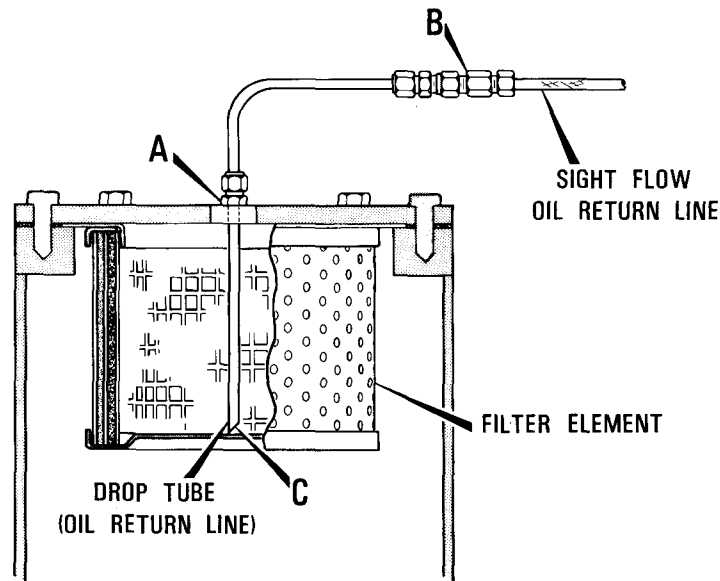

FIGURE 22
2. Clean oil return line orifice, Figure 22.
1. Disconnect necessary piping at separator cover. The oil return line must be first separated at coupling B, Figure 22, loosened at fitting A on the separator cover and then the tube pulled up out of the separator.
The oil return line tubing (Figure 22) serves to visually ascertain that any oil accumulation at the bottom of the air/oil separator is being removed. This tubing should be observed daily (during operation) for an indication of oil flow, a light air/oil mist is normal. If the tube shows completely full of oil, it indicates that the oil line is clogged and oil is not being removed. If the tube shows no flow at all, the oil line may be clogged or the drop tube may not be properly “bottomed” in the separator element. This results in excessive oil consumption and oil in service lines. If clogging is indicated, remove and clean the orifice (Figure 22) by blowing with a reverse flow of air. The plastic tubing will sometimes discolor with age due to the lubricant. If it becomes impossible to distinguish oil flow in the tube, it will be necessary to clean the tube or replace it. A bright light placed behind the tube may also reveal oil flow in a discolored tube.